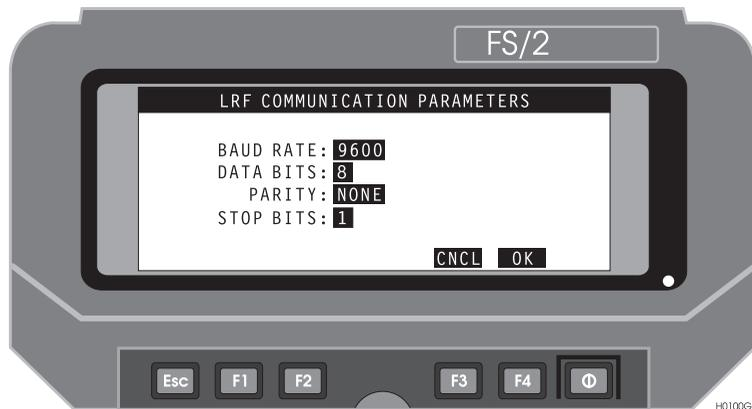

Figure 3.20: LRF Communication Parameters Screen
1. From the Feature Offset screen, press **F3 (LCOM)** to call the LRF Communication Parameters screen, Figure 3.20.